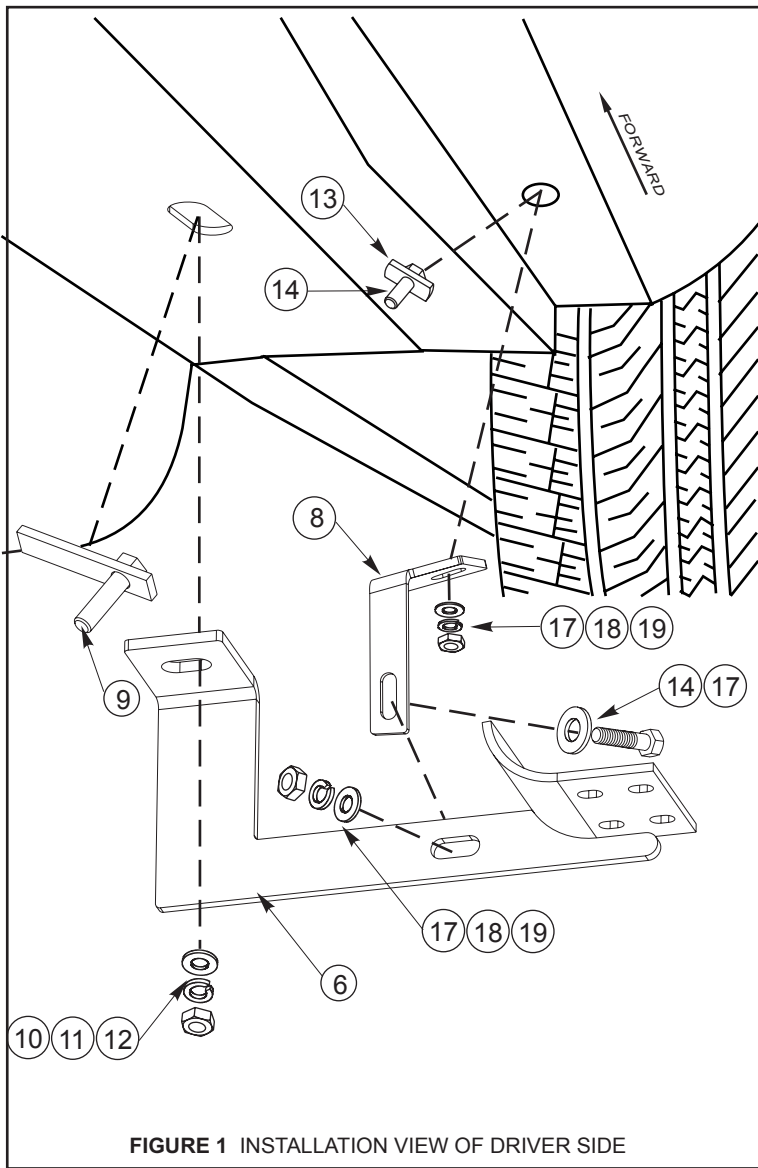

FIGURE 1 INSTALLATION VIEW OF DRIVER SIDE
- STEP 2. Remove rubber plugs from rear mounting locations. Thread 3/8-16 x 1.25" hex head bolt through bridge weld nut. Insert assembled 3/8" bolt plate and 1/2" bolt plate as shown. **SEE FIGURE 1.**
- STEP 3. Attach the rear bracket to the 1/2" bolt plate as shown. Attach the support brace to the assembled 3/8" bolt plate as shown. Leave loose. **SEE FIGURE 1.**
- STEP 4. Attach support brace to the rear brackets using 3/8" fasteners as shown. **SEE FIGURE 1.**